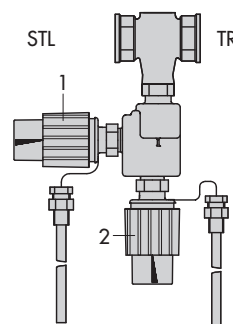

Fig. 3
**Temperature regulators and safety temperature limiters (TR/STL) (Figs. 3 and 4)** consist of one of the above mentioned instruments Type 243... K/2439 K and a typetested Type 2430 K Control Thermostat, for example: